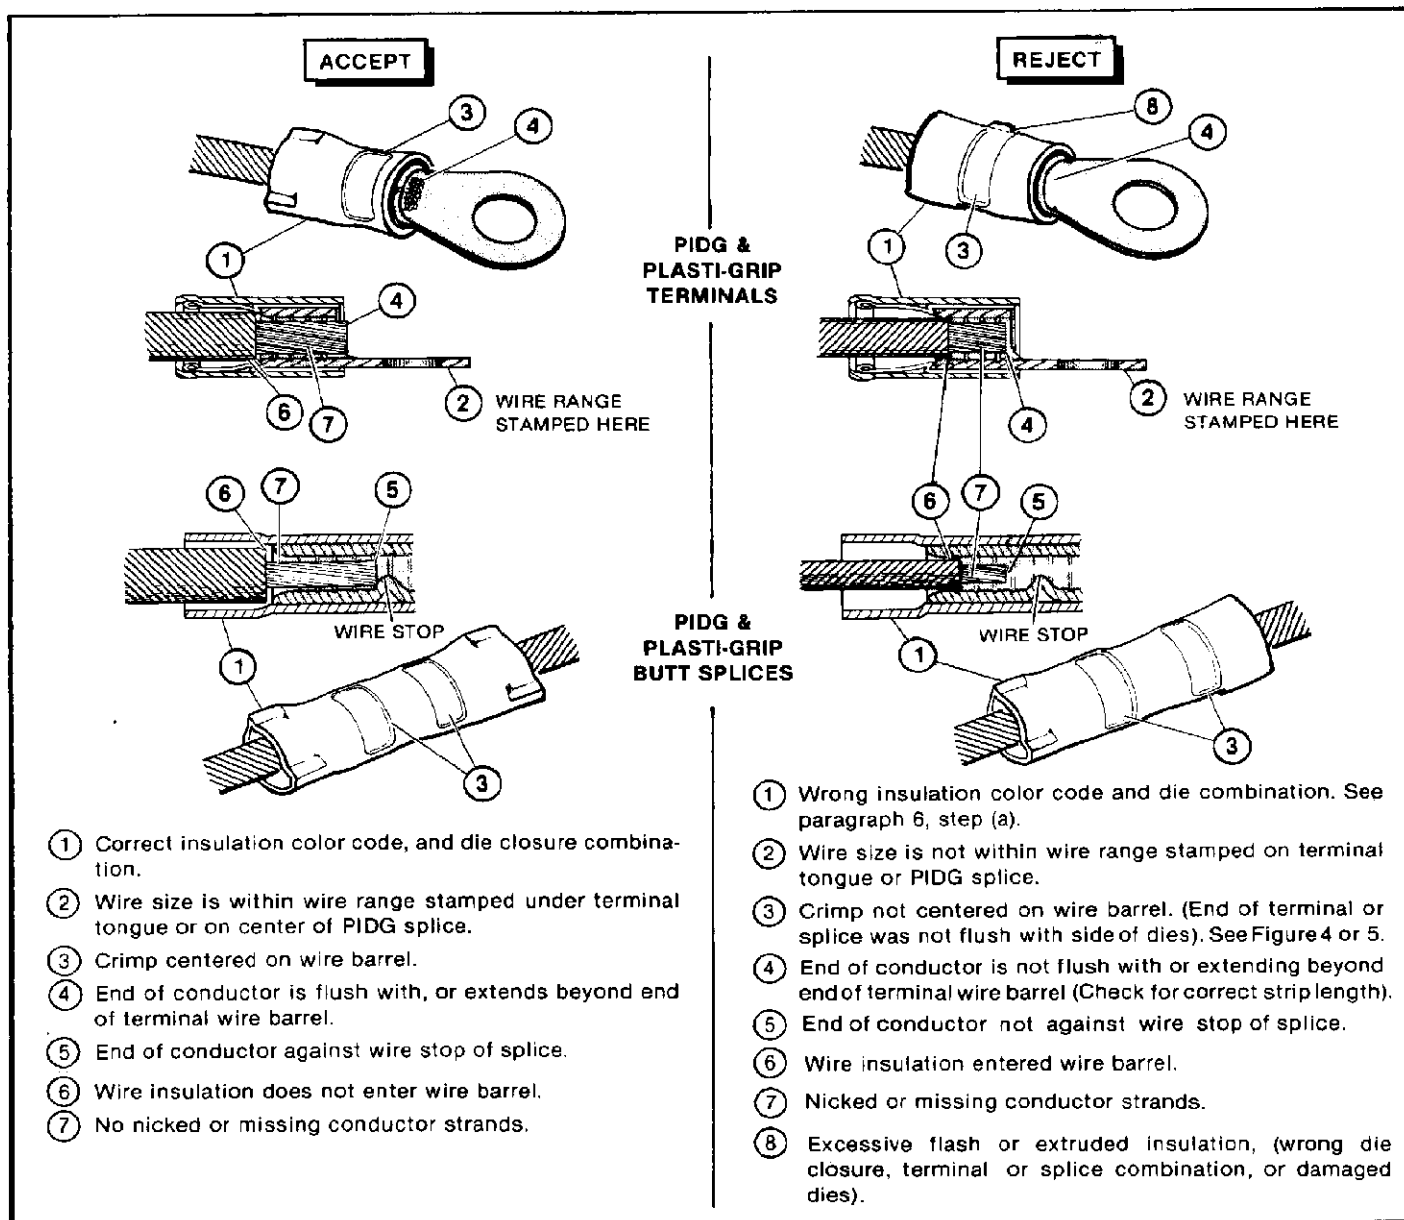

Figure 6
- Refer to Figure 6 for terminal or splice crimp inspection procedure.